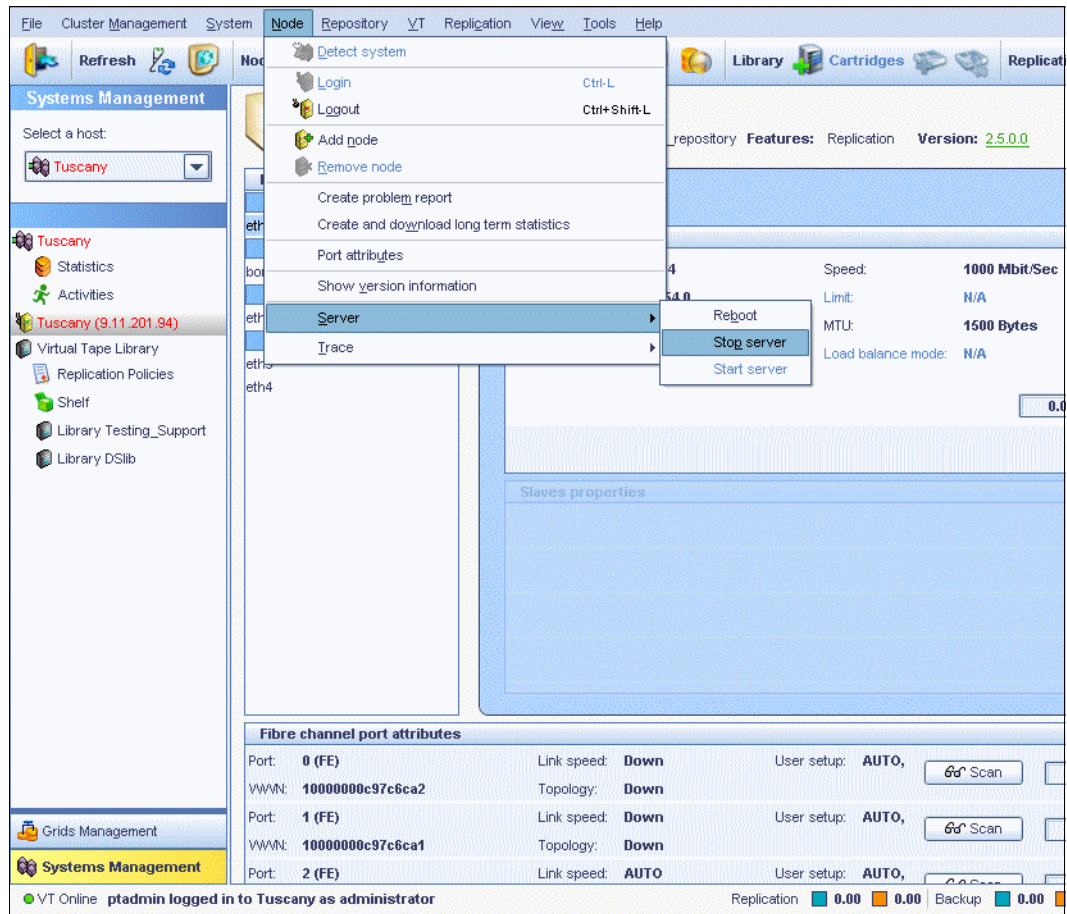

Figure 10-94 Stop server
2. Select **Node** → **Server** → **Stop Server** (Figure 10-94).